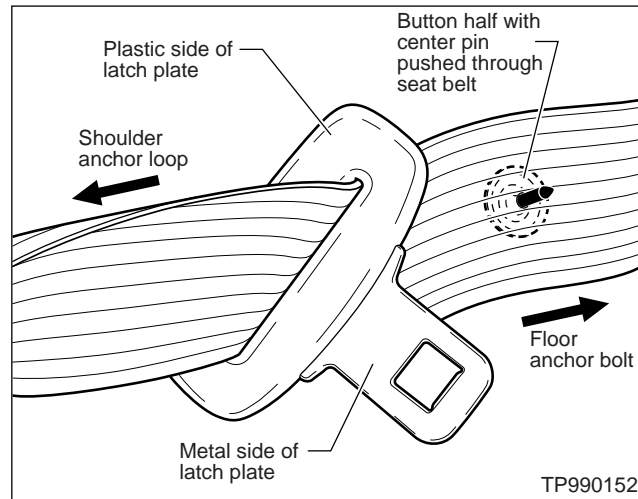

Figure 2 – Positioning latch plate and inserting retaining button half with center pin
- Slide the seat belt latch plate to a position higher than the button position (i.e., between the button location and the shoulder anchor loop). See Figure 2.
- Find the original button position (hole). Then insert the button half (with the center pin) into the belt. Go in from the plastic side of the latch plate (see Figure 2).
- On the opposite side of the belt (on the metal side of the latch plate) fit the button half with the hole over the protruding pin (see Figure 2 & 3).
8. Make sure the center pin of the button is securely crimped to hold the other half of the button in place (see Figure 2 on page 4).